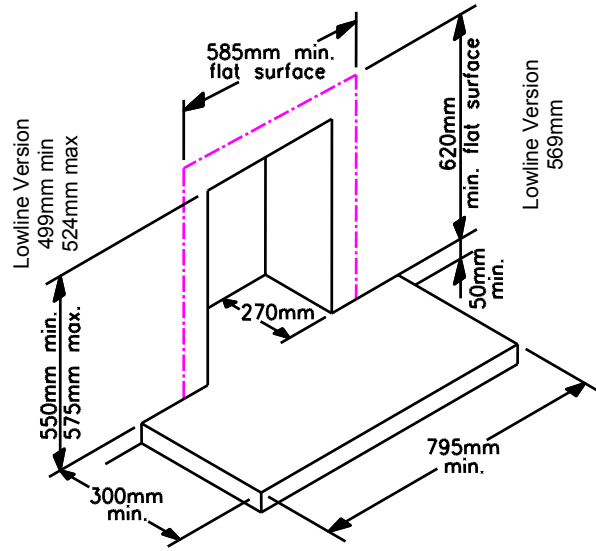

Fig.2b Masonry chimney without chairbrick
The Theme 18 may be installed to a masonry chimney with a minimum cross sectional area of 24,000 sq.mm, lined flue with a minimum dimension of 100mm or a minimum diameter of 175mm and a minimum effective height of 3m and having a throat forming lintel conforming to BS1251. The appliance may be installed either: (a) without removing the chairbrick **but the spacer frame MUST be used**, (see Fig. 2a for minimum depth requirements), or (b) in a builder's opening with sufficient volume for debris collection conforming to Fig. 2b.
*Without chairbrick (Fig. 2b)*